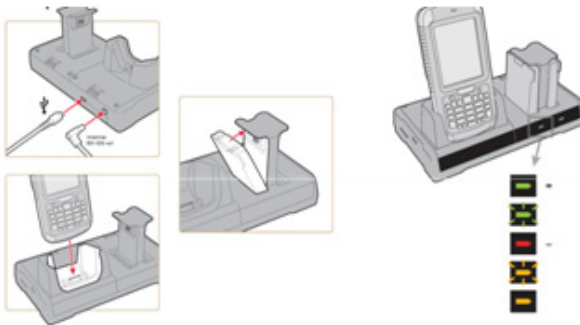

Figure 3. Single dock station
1. Connect the power supply unit plug to the single dock station jack (Figure 3).
2. Insert the mobile computer onto the computer dock connector (Figure 3).
3. The battery may also be removed from the mobile computer and charged in the docking station (Figure 3).